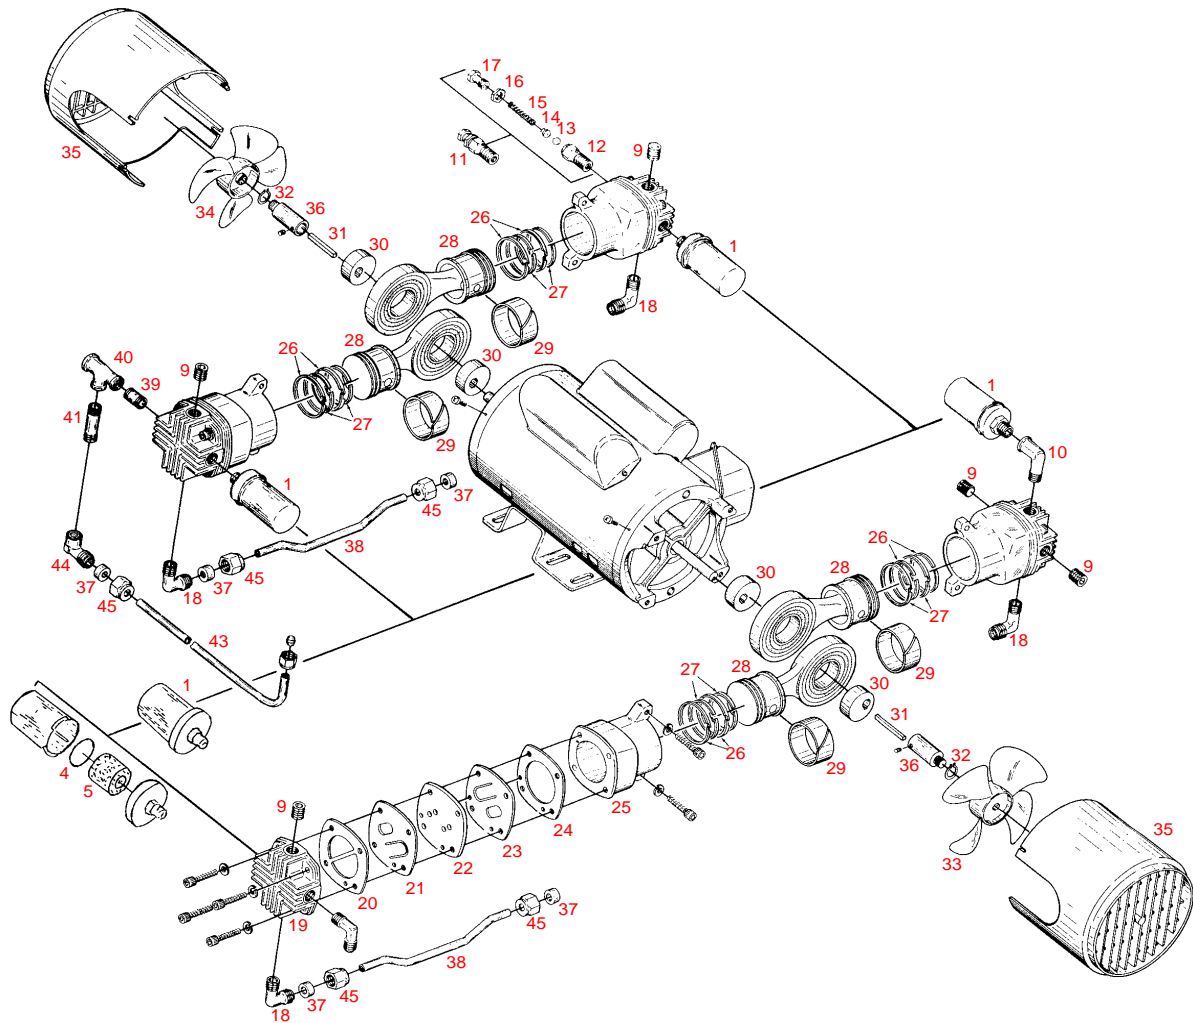

Figure 4
The P07102 maintenance kit contains parts necessary for scheduled routine maintenance on the nitrogen bottle replacement module when operated under normal conditions. Refer to Figure 4. The contents of the maintenance kit are as follows:
- C. Install valve components, gaskets and valve plates by lining them up as outlined in Figure 4. Valves are pre-lined in the maintenance kit; however, they should be checked. The leaves of the intake and discharge valves have been pre-bent and do not require adjusting.